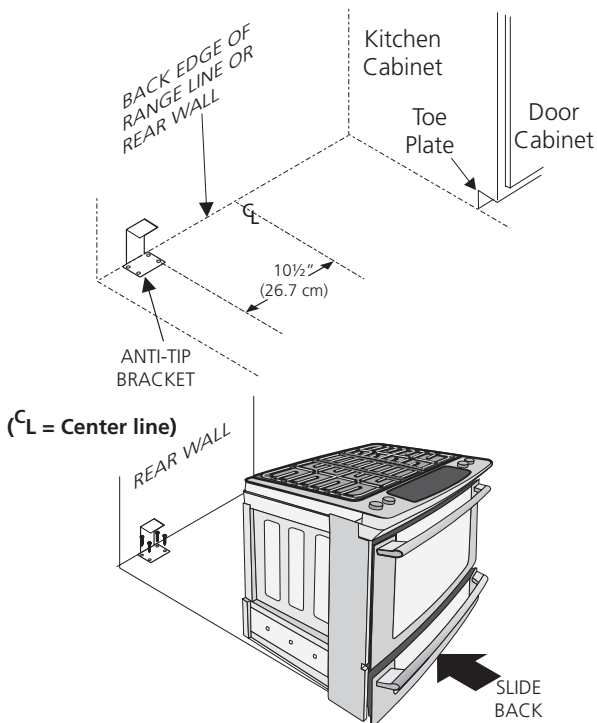

Figure 16
1. Draw a center line (CL) on the floor where the range should be installed. Also draw a line on the floor at the range back position if there is no wall.
2. Unfold paper template and place it flat on the floor with the right rear corner positioned exactly on the intersection of the center and back lines you just drew before. (Use the diagram below to locate brackets if template is not available. (Figure 16))